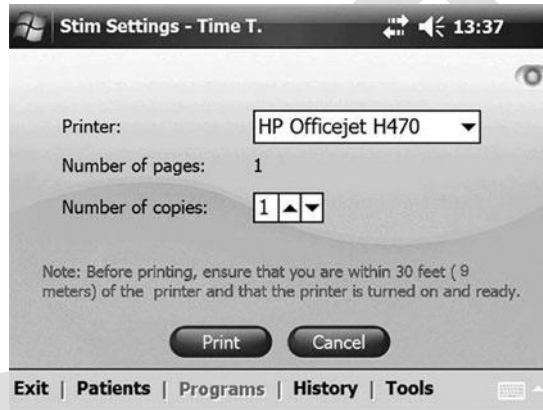

Figure 9-8. Select a printer (or “Adobe PDF file”) from the drop-down list, and then press “Print.”
2. Select a printer or “Adobe PDF file” from the drop-down list, and then press “Print.” See Figure 9-8.